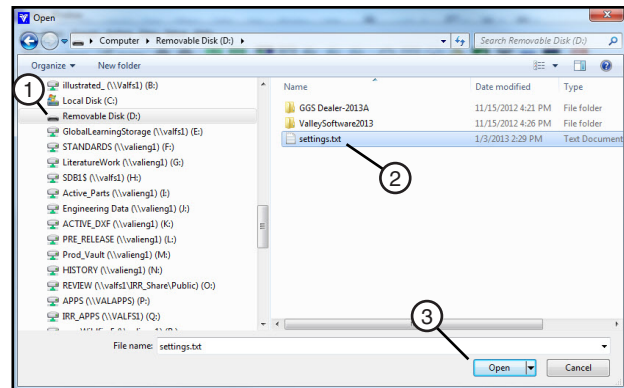

Figure 32-2 1. Flash Drive
- g. Browse for the flash drive and select the settings.txt file. See figure 32-2.
- h. Click the Open button to load the new settings. See figure 32-2.